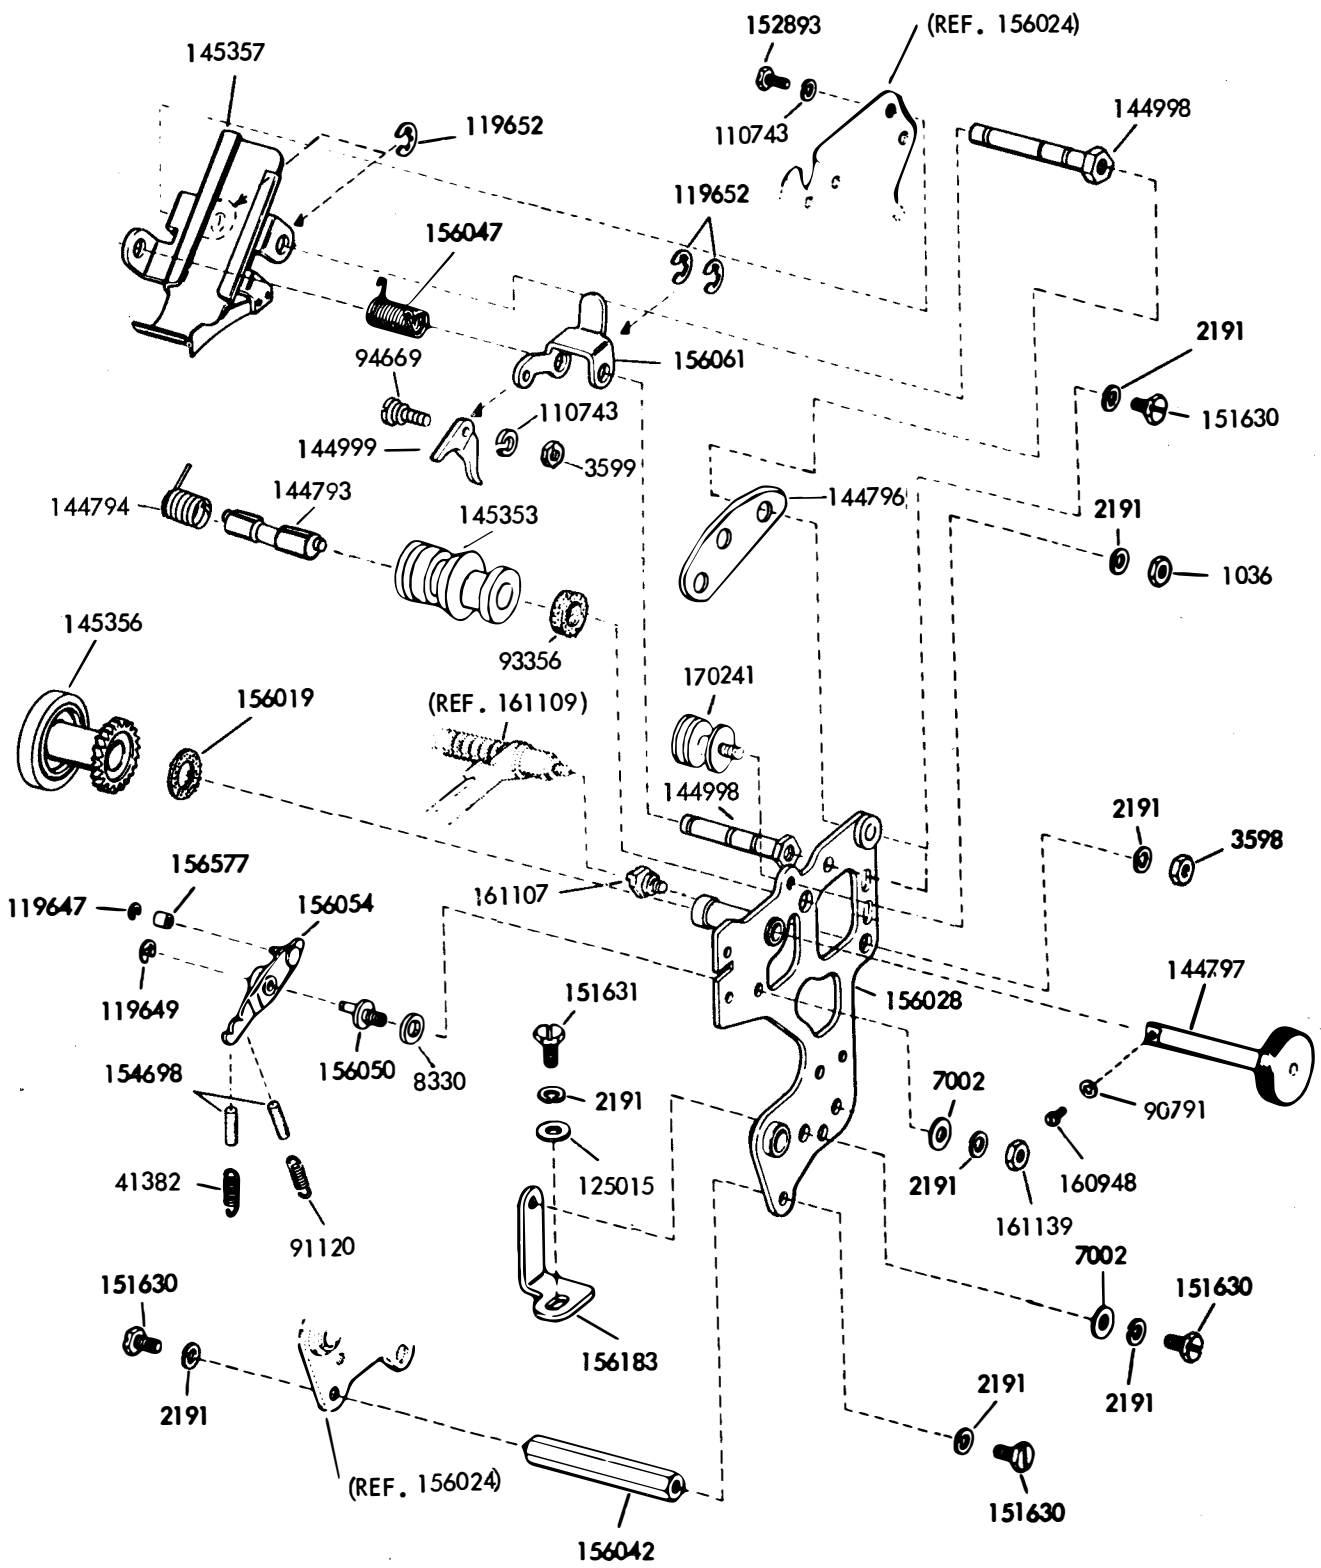
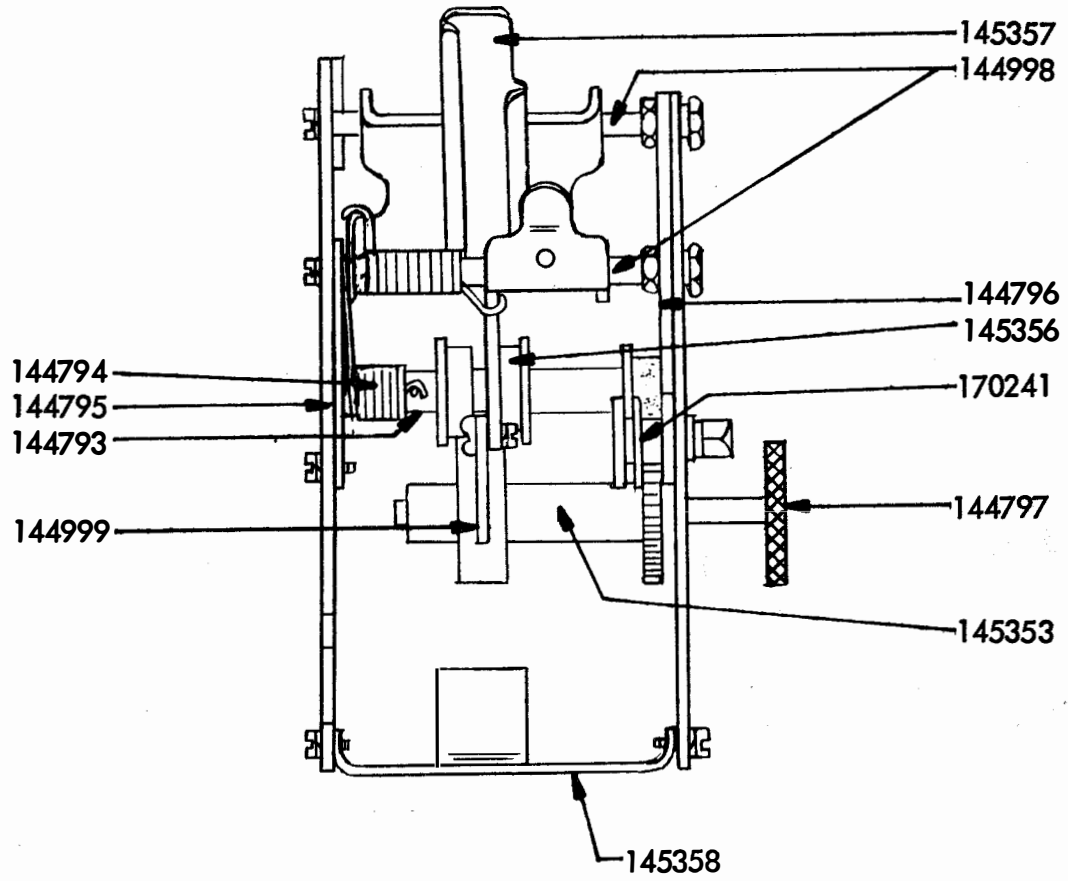

FIGURE 2.
FIGURE 3.
(1) Put the 8330 Flat Washer on the threaded end of the 156050 Detent Lever Stud and replace the stud.
(2) Install the 145356 Feed Wheel and the 156019 Felt Washer retained in setp a.(14) above. Replace front plate mechanism.
(3) Replace the 151630 Screw and 2191 Lock Washer in the 156042 Post.
(4) Secure the 144999 Tape Shoe to the 156061 Tape Shoe Arm (retained in step a.(6)) using the 94669 Shoulder Screw, 110743 Lock Washer and 3599 Nut. (See Figure 3.)
(5) Install the 145357 Tape Guide, 156047 Spring, and 156061 Tape Shoe Arm Assembly on the 144998 Posts securing with the 119652 Retaining Rings.
(6) Place the 93356 Felt Washer and the 145353 Pressure Wheel on the 144793 Eccentric Shaft Pin. Place the 144794 Torsion Spring on the post as shown in Figure 3.
(7) Install the 170241 Adjusting Screw using hardware retained in step a.(10).
(8) Secure the 144796 Front Plate and 144795 Rear Plate together using the parts in steps b.(5) and b.(6). (See Figures 2 and 3).
(9) Secure the plates and posts with two 151630 Screws and 2191 Lock Washers (for the front) and two 152893 Screws, one 151637 Screw and 110743 Lock Washers (for the rear). This hardware was retained in step a.(5), (6) and (7) above. Also, install parts removed in Paragraph 2.a.(12).
(10) Install the 144797 Feed Wheel Shaft using the 160948 Screw and 90791 Lock Washer retained in step a.(9) above.
(11) Mount the 145358 Tape Guide in place of the punch block assembly using the hardware retained in step a.(4) above.
(12) If the Model 28 LTP Printer is used on a Model 28 Typing Reperforator Single or Double Plate Base, a tape reel will have to be used to accommodate the 3/8 inch tape. This tape reel consists of a 145333 Disc W/Hub and a 145335 Disc W/Nut.
- (13) Remount the perforator mechanism in accordance with standard practice.
- (14) Replace the reperfocator on the base in accordance with standard practice.
- (15) Replace the typewheel using the 94712 Washer in place of the 156390 Washer and the hardware retained in step a.(2) above.